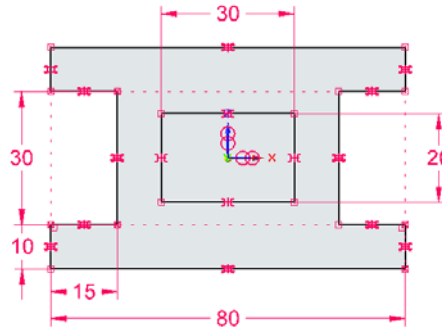

Figure 3-38 Final profile after adding all dimensions
- Add dimensions and relations to the rectangle to complete the sketch, refer to Figure 3-38.
3. Next, select the right vertical line of the inner loop and place the dimension on the right of the sketch. Enter **20** in the **Dimension Value** edit box and then press ENTER; the inner loop turns black, indicating that it is fully constrained. This completes the dimensioning of the profile. The final profile, after adding all dimensions, is shown in Figure 3-38.